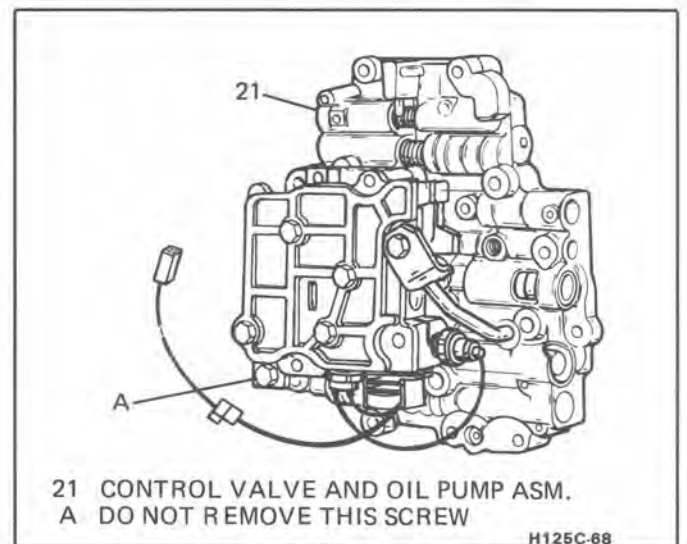
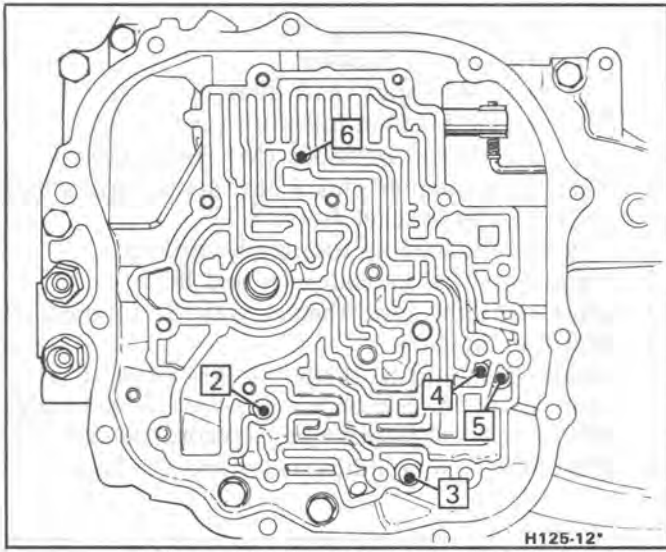

Figure 14 Control Valve/Pump Assembly
Figure 15 Check Ball Locations
1. Screws (27) (Leave two screws finger tight - tap the cover (26) with rubber mallet.)
2. Cover (26)
3. Bolts (24) - Do not remove the screw marked "A" (Figure 14)
4. Bracket assembly (23) and T.V. cable link (22)
5. Valve body (21) – Do not place the machined side on the bench
6. Number one check ball (16)
7. Pump shaft (18)
8. Spacer plate (20) and gaskets (19)
9. Five check balls (Figure 15) Assembly
- J-26900-12 or 58001 (M) dial indicator
5. Reading should be 0.10-0.84 mm (.004"-.033"). See Figure 15. For choice of selective snap rings for proper end play ranges – record the reading.